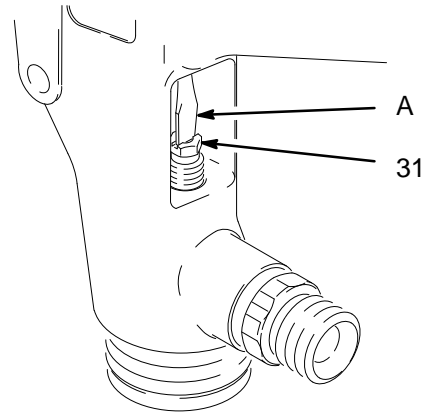

Fig. 31 02762
4. Remove the fluid adjustment knob (8) and spring (16).
5. Pull the fluid needle (21) out the back of the gun.
7. Remove the fluid adjustment nut (6), spring (15), and air valve (14).
8. Insert a thin-blade screw driver (A) through the back of the gun and into the packing adjustment nut (31) and remove the screw. See Fig. 31.